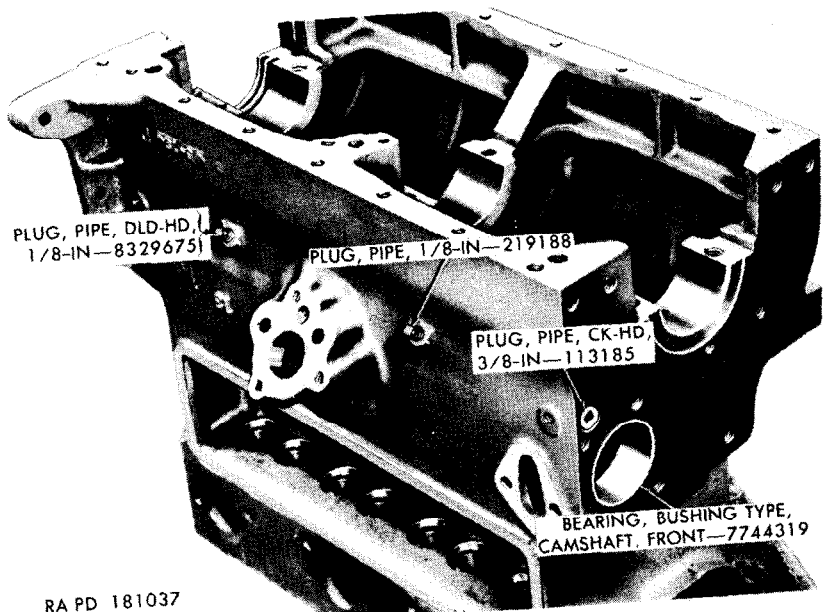
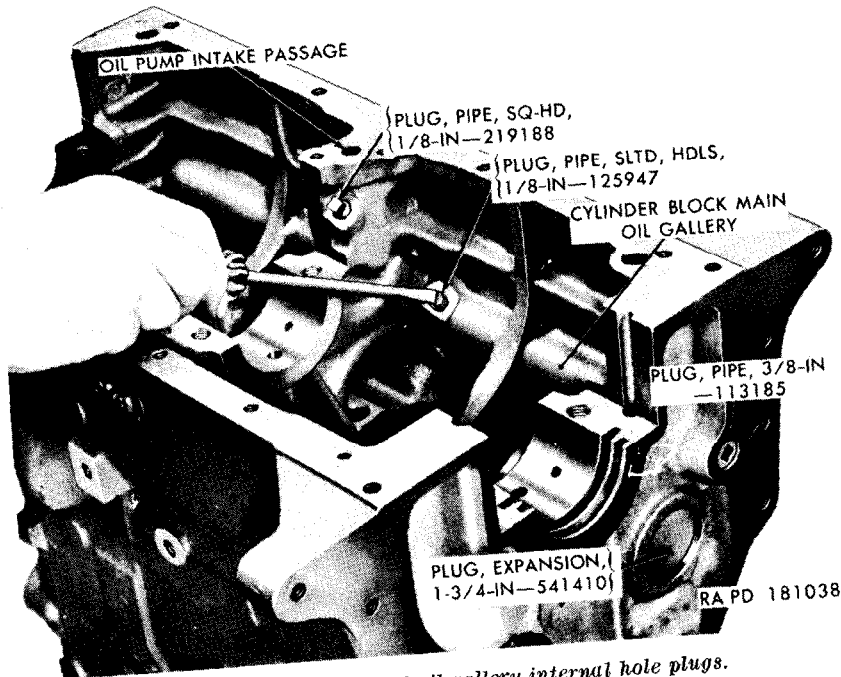
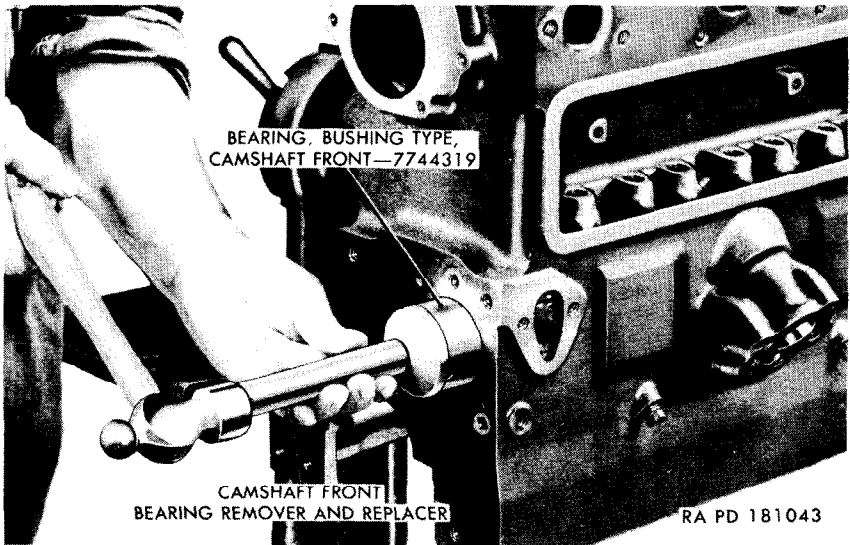

Figure 26. Location of oil gallery external hole plugs.
Figure 27. Location of oil gallery internal hole plugs.
Figure 32. Installing camshaft front bearing.
a. Remove the two pipe plugs (fig. 26) from the left outside surface of the cylinder block. Remove the two countersunk-head pipe plugs (fig. 26), one from each end of the block. Remove the slotted-head-less pipe plug (fig. 27) from the cylinder block main oil gallery, and
the square-head pipe plug (fig. 27) from the tapped opening just below the oil pump intake passage inside the cylinder block.
b. Insert a 24-inch length of 1/2-inch bar stock into the camshaft bore in the cylinder block and drive against the bar to dislodge the expansion plug (fig. 27) from its seat in the rear end of the cylinder block.
c. Check the inside dimension of the front camshaft bushing type bearing (fig. 26). If the dimension does not exceed 2.1880 inch, the bearing need not be removed. If removal of the bearing is necessary, use the improvised camshaft front bearing remover and replacer (fig. 32) and drive the bearing out of the cylinder block.
- (2) Clean the cylinder block main oil gallery (fig. 27) and the smaller oil passages in the cylinder block using round wire brushes slightly larger in diameter than the passages. Force flush the passages using cleaning fluid under pressure.
b. Coat the threads with plastic type gasket cement and install the two ⅜-inch countersunk-head oil gallery pipe plugs (A), one in each end of the cylinder block (fig. 27). Install the two ⅜-inch square-head pipe plugs (L and J) in the openings in the oil passage on the left outside of the engine, making sure the plug with the drilled-head (L) is installed in the hole nearest the rear end of the engine (fig. 26).
c. Install the ⅜-inch slotter-headless pipe plug (K) in the opening in the main oil gallery inside the cylinder block (fig. 27). Install the ⅜-inch square-head pipe plug (J) in the opening in the oil passage directly below the oil pump intake passage.
d. If necessary, replace the camshaft front bushing type bearing (par. 50c), using the improvised camshaft front bearing remover and replacer (fig. 32). Slide the bearing onto the arbor of the remover and replacer, notched end first. Align the oil hole in the bearing with the oil hole in the bore in the cylinder block and drive the bearing into the bore until the front end of the bearing is flush with the front surface of the cylinder block.